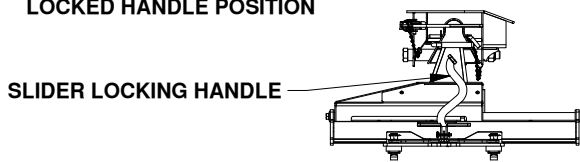

Figure H2: Side view of slider base.
2. Pull the handle toward the rear of the truck to move it to the unlocked position, shown in Figure H2.
6. Pull the handle toward the rear of the truck to move it to the unlocked position, shown in Figure H2.